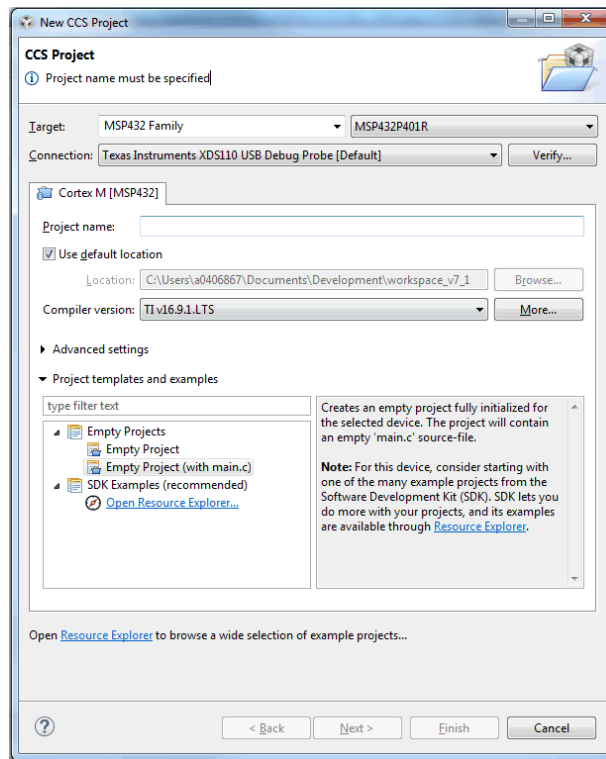

Figure 3. New Project Wizard
2. Select **MSP432** or **MSP432E4** as the target family (see Figure 3), which limits the list of devices in the device pulldown list.